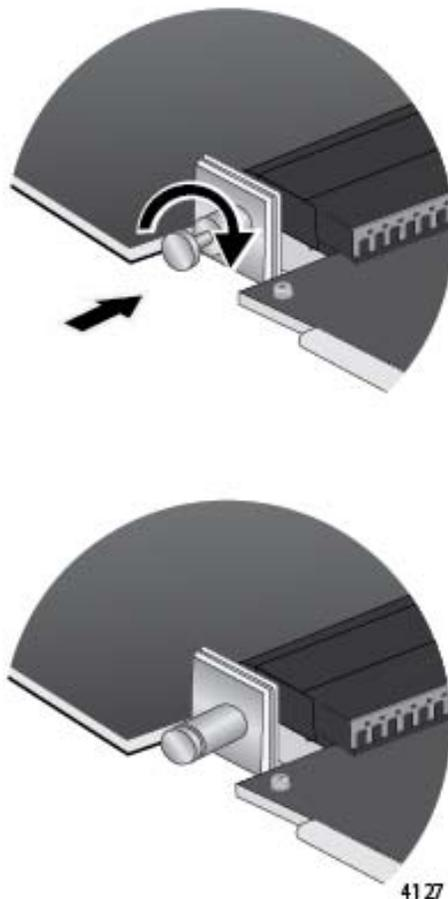

Figure 81. Releasing the Retaining Pin
11. Turn the retaining pin on the side of the line card one quarter turn to release it. Refer to Figure 81 on page 144.